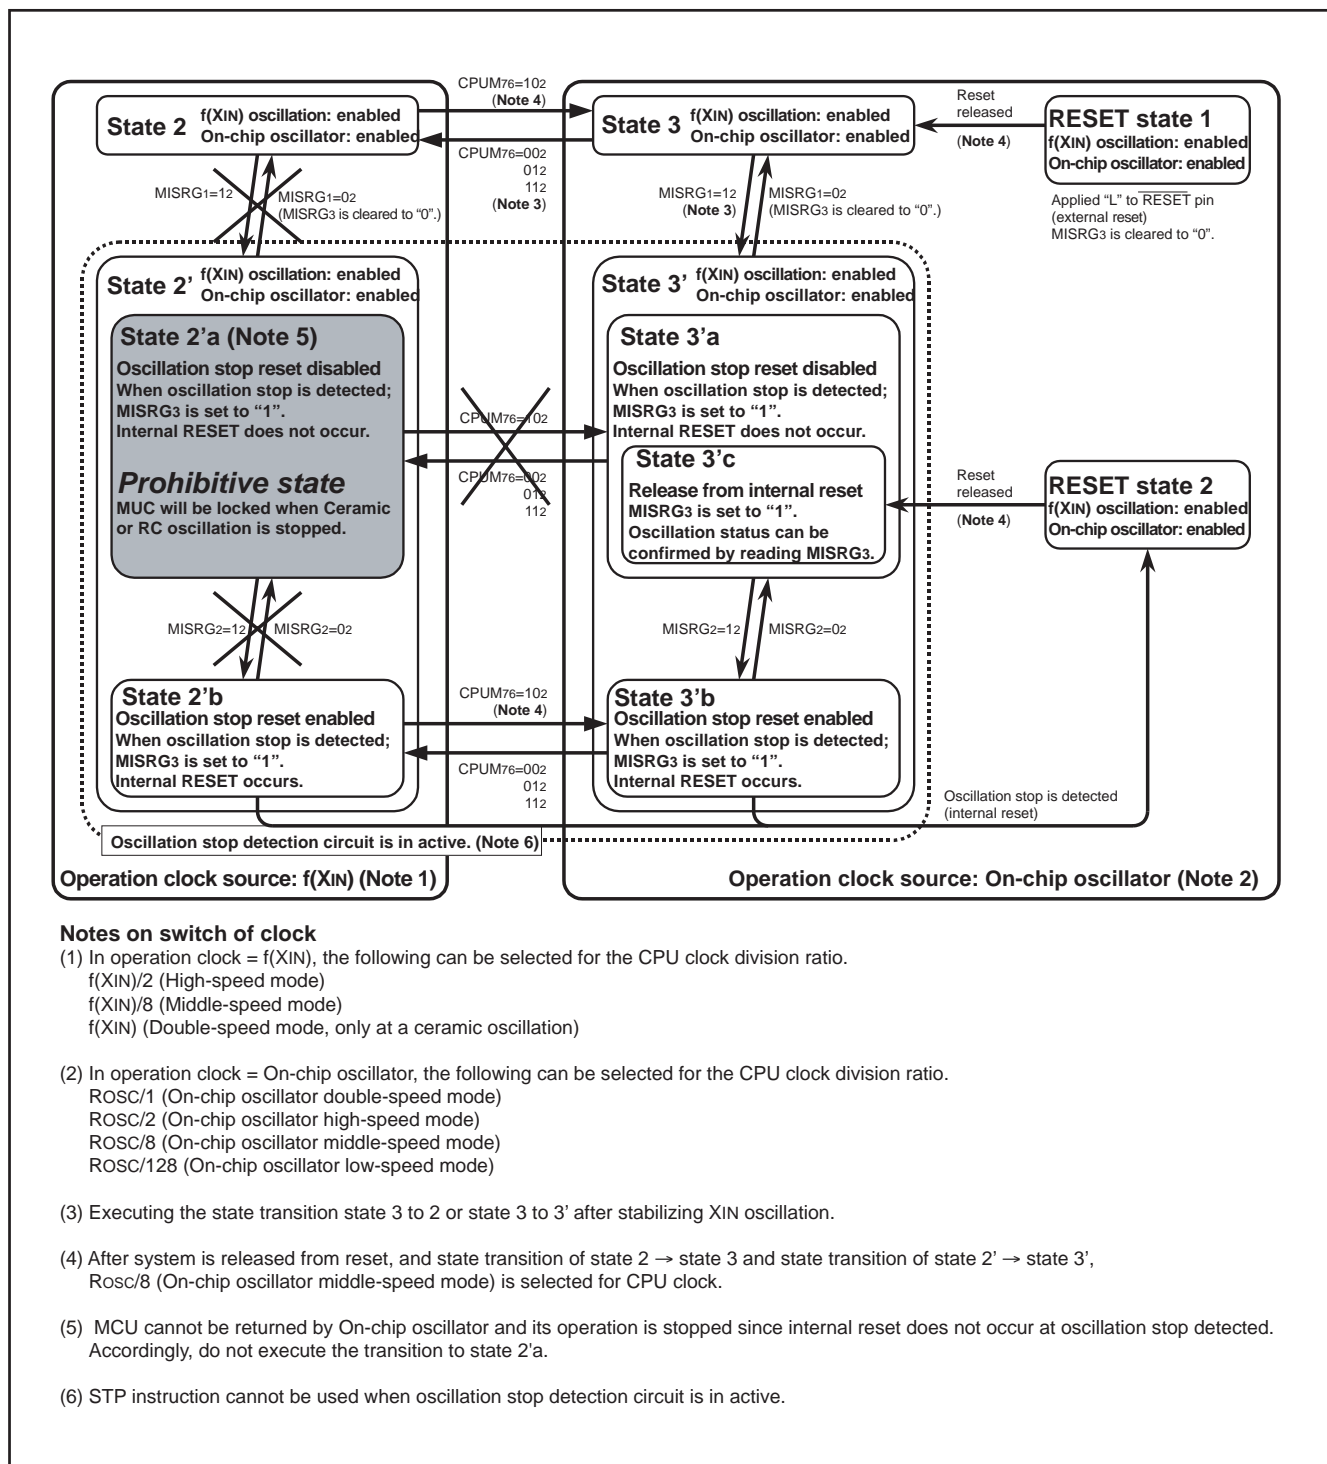

Fig. 83 State transition 2
- Do not execute the transition to "state 2'a" shown in Figure 83 because in this "state 2'a", MCU is stopped without reset even when XIN oscillation is stopped.
- (1) External reset
- (2) Write "0" data to the ceramic or RC oscillation stop detection function active bit.